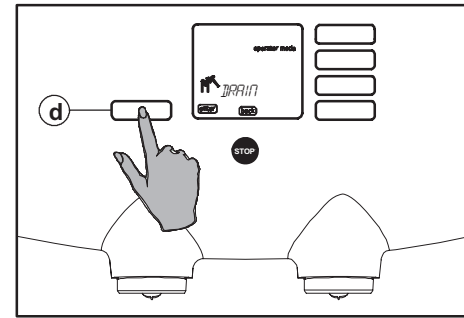

Fig. 78 Starting the descaling program
5. Press the enter button (fig. 78 d). The display shows: "ARE YOU SURE?".
6. Press the enter button again (fig. 78 d). The display shows: "DRAIN" +  (fig. 78).
13. Press the enter button (fig. 78 d).
- Empty the water tank and press the enter button (fig. 78 d).
18. Press the enter button (fig. 78 d).
24. Press the enter button (fig. 78 d).
31. Press the enter button (fig. 78 d).
33. Press the enter button again (fig. 78 d).